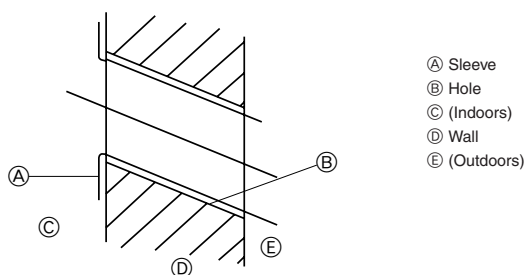

Fig. 3-2
3.1.2. Drilling the piping hole (Fig. 3-2)